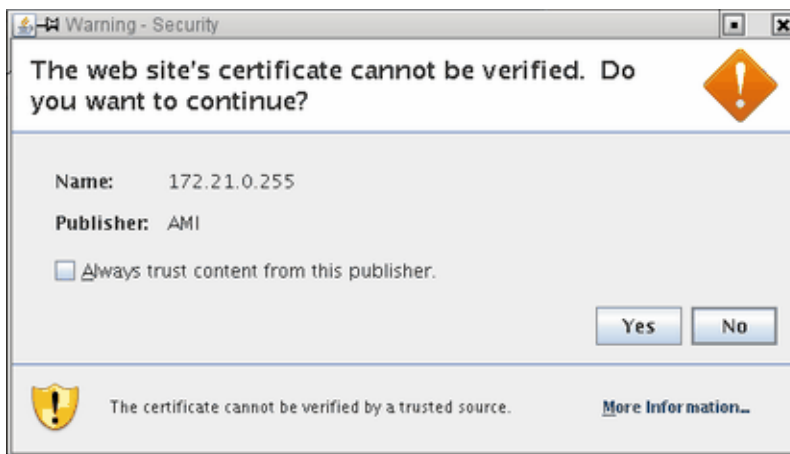

Figure 3-6 Web site Warning-Security Screen
9. You will then get a screen about **The web site's certificate cannot be verified. Do you want to continue?**, as shown in Figure 3-6 on page 40. Click the **Yes** button to continue. You can also click the checkbox to keep it from showing up later.